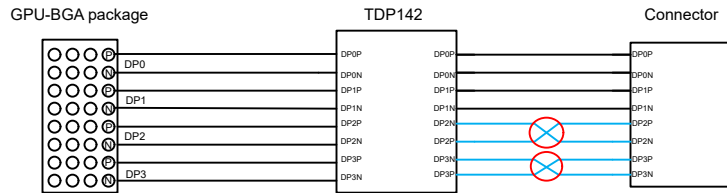
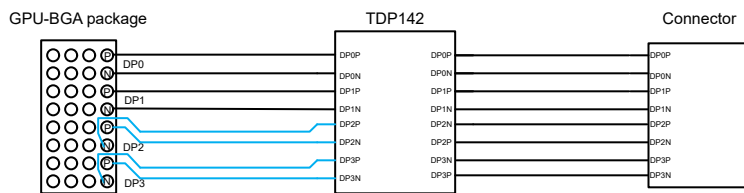

Figure 8-7. Layout Example: Signal Crossing on the Output
Figure 8-8. Layout Example: INDP2 and INDP3 Polarity Swap
10. Refer to Figure 8-7, the layout might face signal crossing on OUTDP2 and OUTDP3 due to mismatched order between the output pins of the device and the connector. One solution is to do a polarity swap on the input of the device when GPU is a BGA package to help minimize the number of VIAS being used.
The following figures demonstrate the solution of mismatched order between the output of the device and the DisplayPort connector for the source using BGA package. Figure 8-7 shows the crossing section between TDP142-Q1 and connector. Usually, vias are applied to avoid the cross, but using a via can attenuate the signal integrity. Therefore, the polarity swap can be implemented at the input of TDP142-Q1. Figure 8-8 shows there is no more crossing section between the TDP142-Q1 and connector, which can minimize the number of vias being used. Note that the solution is only useful for the source using BGA package.